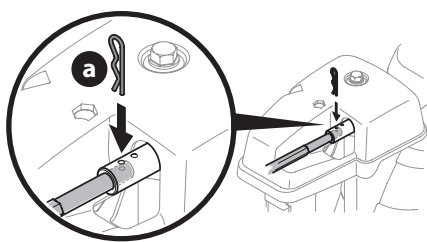

Figure 19
7. Push chute control rod toward control panel until hole in rod lines up with hole in chute control input collar closest to chute control head and insert hairpin clip (a) removed in Step 1 (Figure 19).